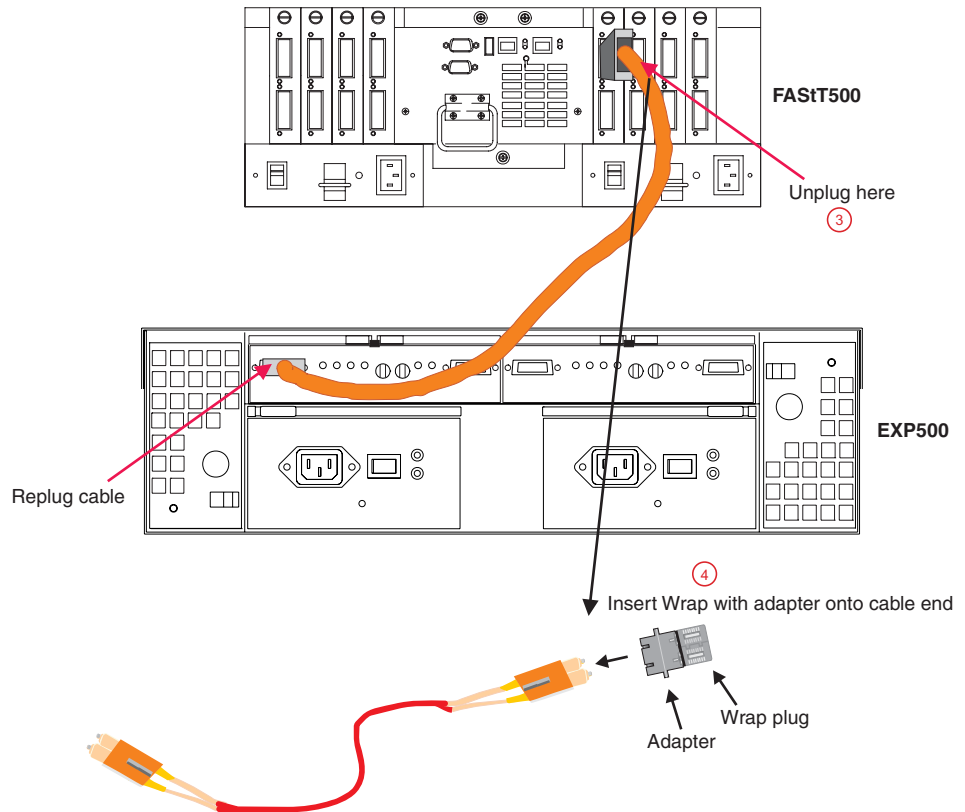

Figure 72. Insert wrap plug with adapter on cable end
4. Insert a wrap plug with an adapter onto the cable end. See Figure 72 on page 135.